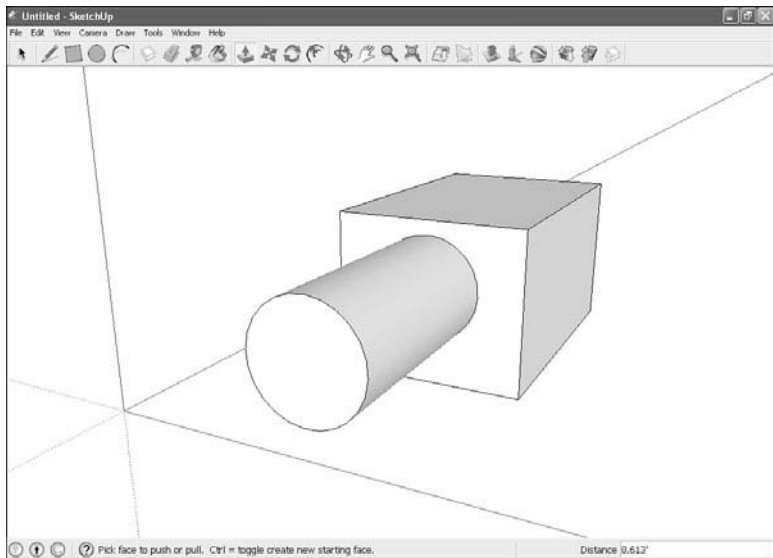
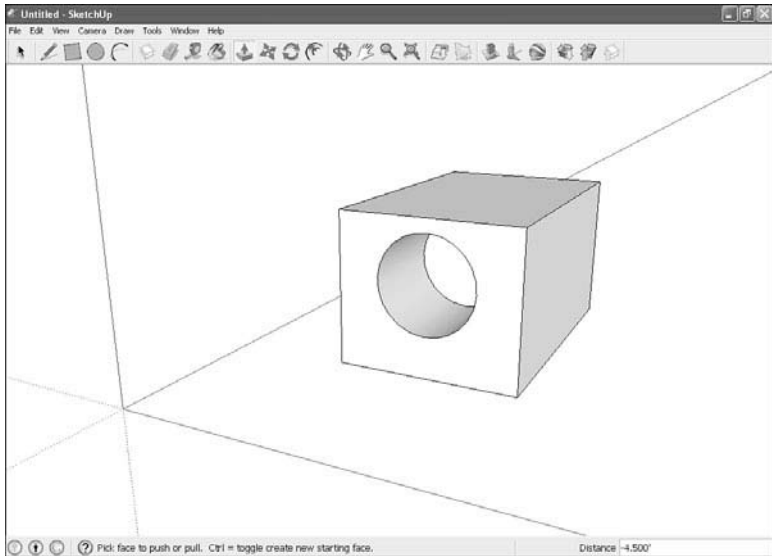

FIGURE 5.4 Pulling a circle into a cylinder.
FIGURE 5.5 Pushing a cylinder into a cube.
6. Drag the circle out of the cube to pull it into 3D, or push it into the cube to push it into 3D. You can see the circle pulled into 3D in Figure 5.4 and pushed into the cube in Figure 5.5.